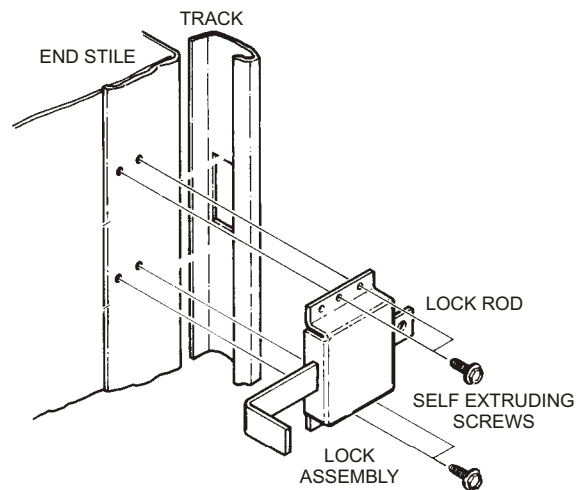

FIGURE 2
1. Center lock rod in track cutout. Retract lock rod and position so that end of lock rod extends 1/2" beyond edge of door section in unlocked position. See Figure 2.